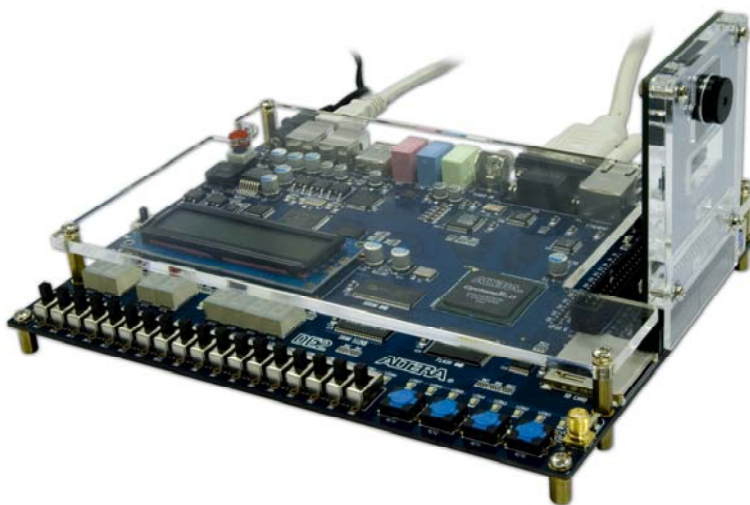

Figure 1.3 Connect the D5M to DE2 board's expansion port (**outermost port**).
2. Connect the D5M to your DE2 board as shown in Figure 1.3.